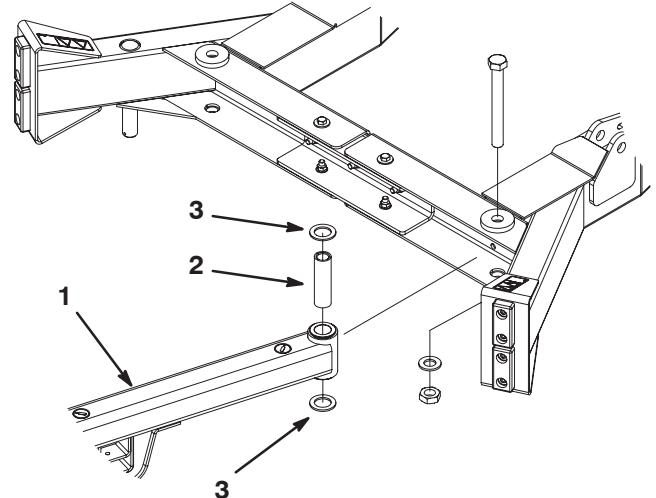

Figure 10
5. Secure left brush arm to left lift arm with a 3/4 x 6-1/2" lg. screw, spacer, (2) thrust washers, .813 x 1.500 flatwasher and 3/4 jam nut (Fig. 10). Thrust washers to be positioned between brush arm bushings and inside of lift arm. Torque to 145–190 ft-lb.